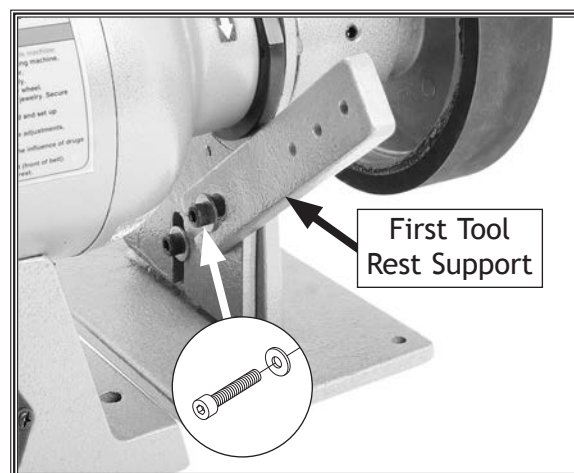

Figure 15. First tool rest bracket installed.
16. Remove the (3) cap screws and flat washers that hold the two pieces of the tool rest support assembly together.
17. Mount the first tool rest support to the back of the arm bracket with the $\frac{5}{16}$ "-18 x $\frac{3}{4}$ " cap screw (the shortest of the three) and flat washer removed in Step 16, as shown in Figure 15.